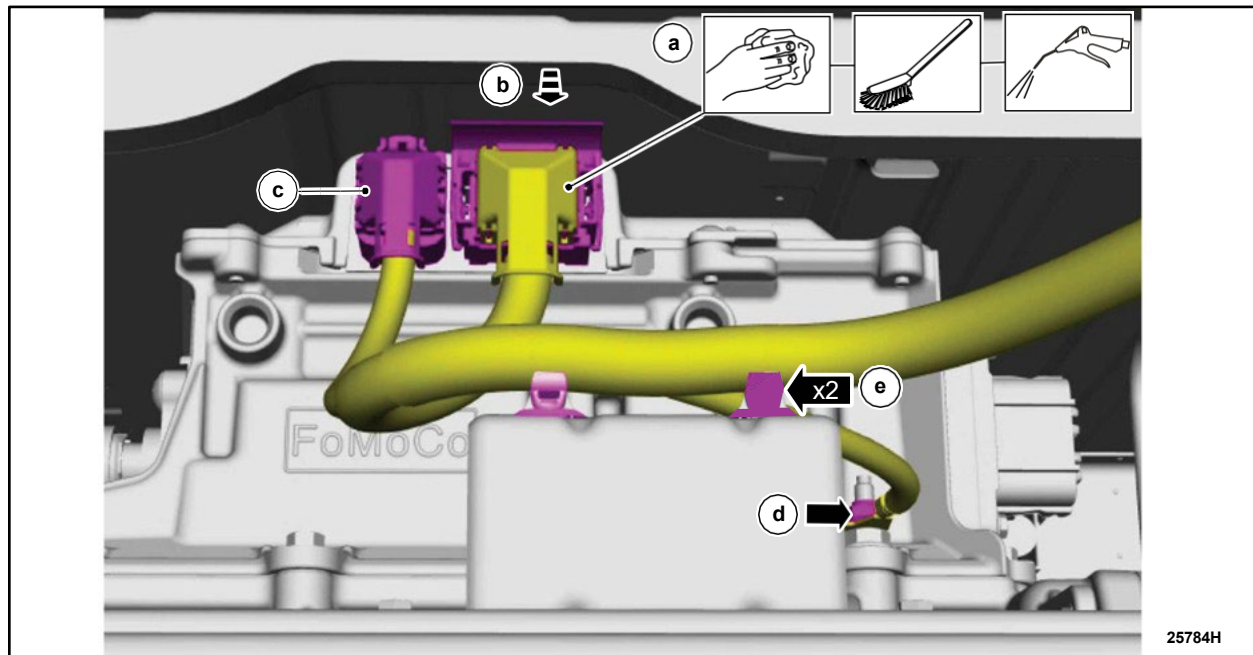

FIGURE 12
16. Position aside the electrical connector. See Figure 12.